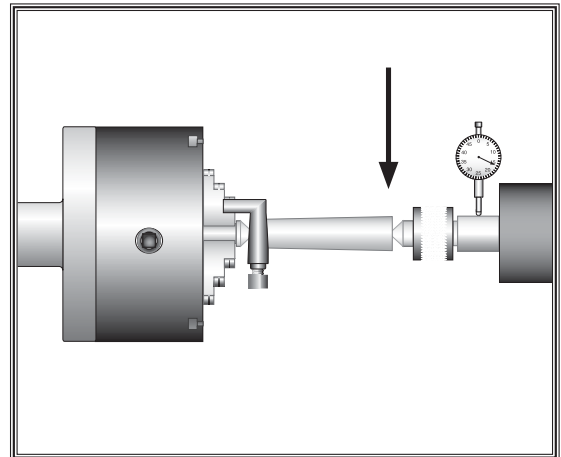

Figure 41. Tailstock adjustment option #1.
- If the stock diameter is thicker at the tailstock end, the tailstock needs to be moved toward the operator half the distance of the amount of the taper (see **Figure 41**).